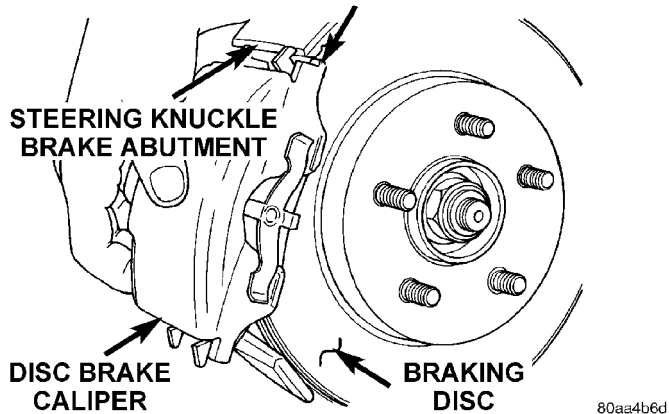

Fig. 57 Installing Caliper Assembly On Steering Knuckle
(4) Carefully position the brake caliper and brake shoes on the steering knuckle by first hooking the end of the caliper under the edge of the steering knuckle as shown in (Fig. 57). Then rotate caliper into position on the steering knuckle.